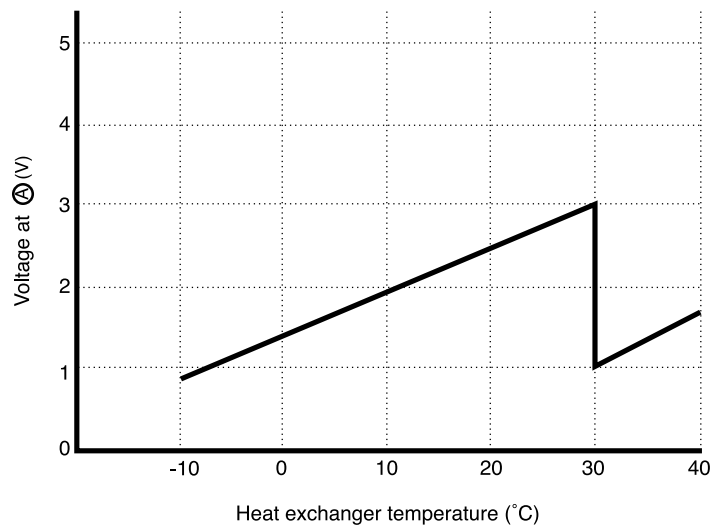

Fig. 9-2
- (1) Low-temperature defrosting during cooling and dehumidifying operation.
The voltage at ④ depends on the heat exchanger temperature as shown in Fig. 9-2.